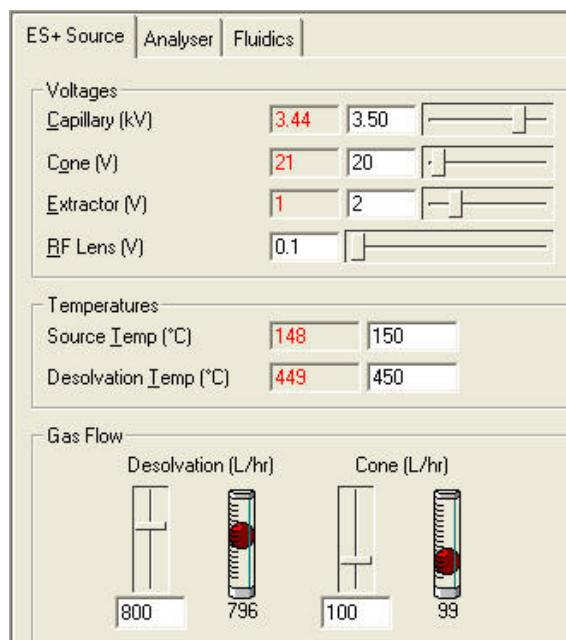

Figure 54 - Source tab
3. Set the gas flow and temperature settings as shown in Figure 54.